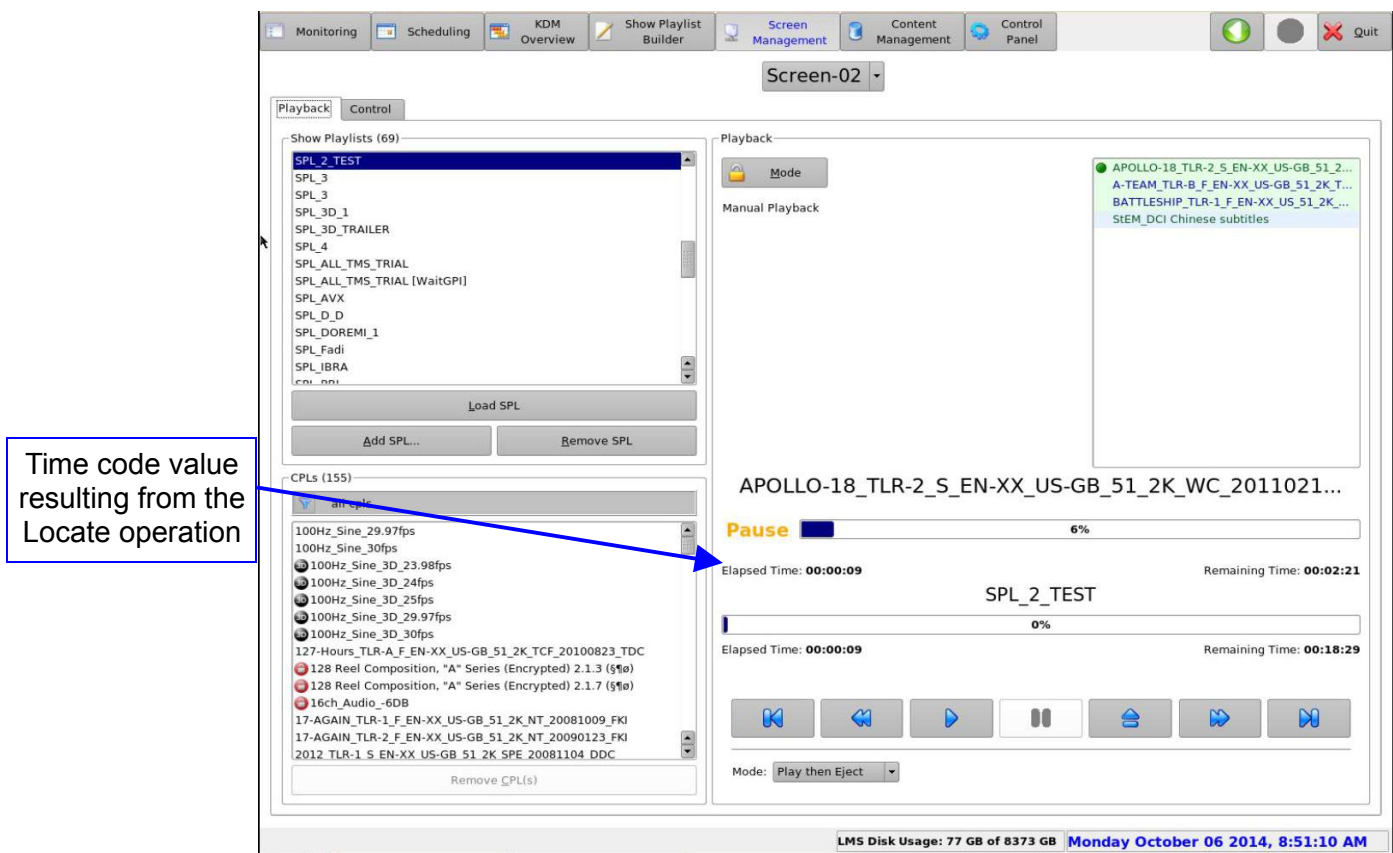

Figure 76: Locate Result
- The user will have jumped to the specified time code within the current clip (Figure 76).